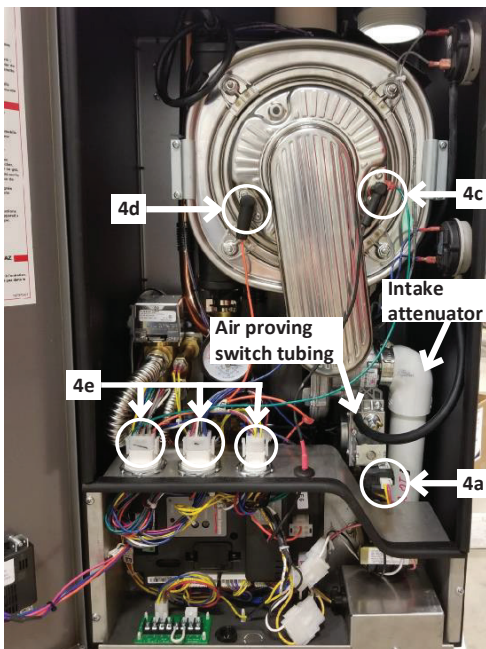

Figure 1
4. Disconnect tube to air proving switch and disconnect the ends of these wire harnesses (Figure 1 & 2):
5. Remove intake attenuator if applicable (Figure 1).